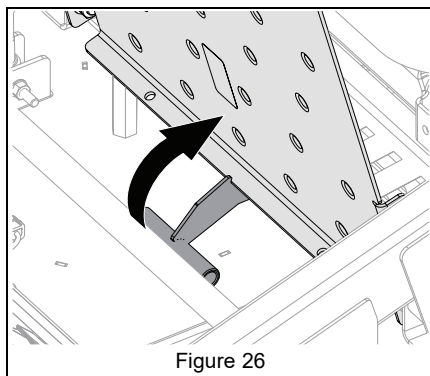

Figure 26
3. Pull bypass handle and secure notch to footplate ledge. See Figure 26.